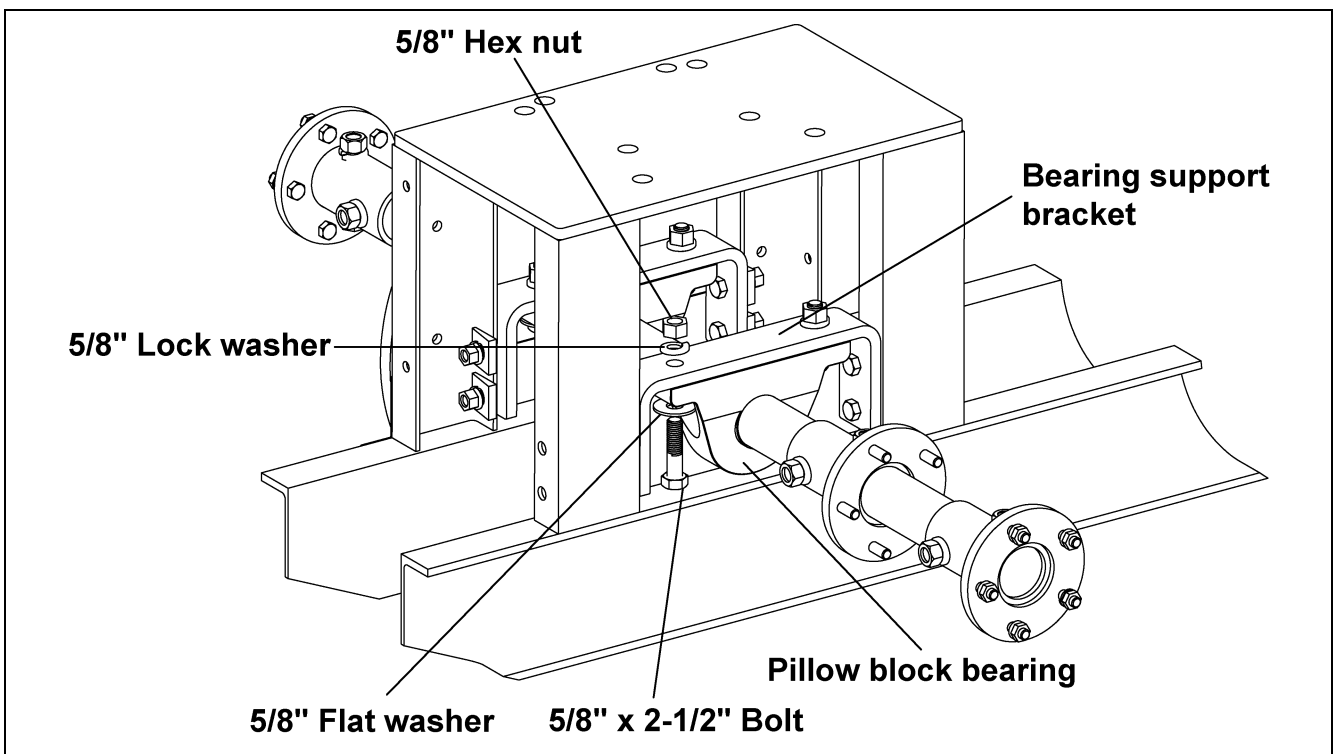

Figure 5K
F. Attach pillow block bearings to the bearing support brackets using 5/8" x 2-1/2" bolts, 5/8" lock and flat washers and 5/8" hex nuts. (See Figure 5K.)